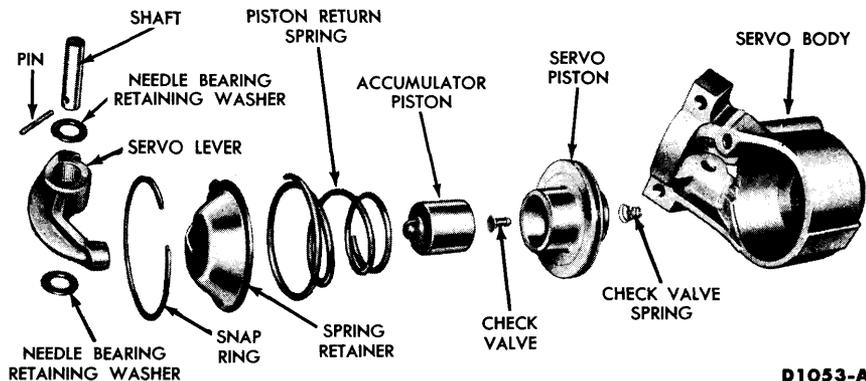

FIG. 24—Rear Servo
6. Inspect the servo body for cracks and the piston bore for scores (Fig. 24). Inspect the servo body to transmission case mating surface for burrs.